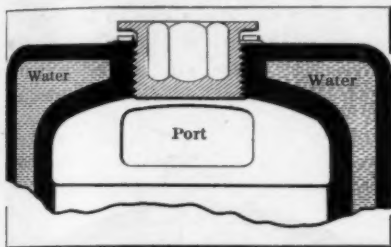

Fig. 27—Inadequate supply of water over combustion chamber is a prolific cause of pre-ignition.
(G) In some cases to make the motors as short as possible the water-jacket is so designed that but little of the cooling liquid will circulate over the dome of the combustion chamber, which is just the part that requires the greatest amount of cooling, and pre-ignition will be eminent in all such cases. Fig. 27 shows this construction.